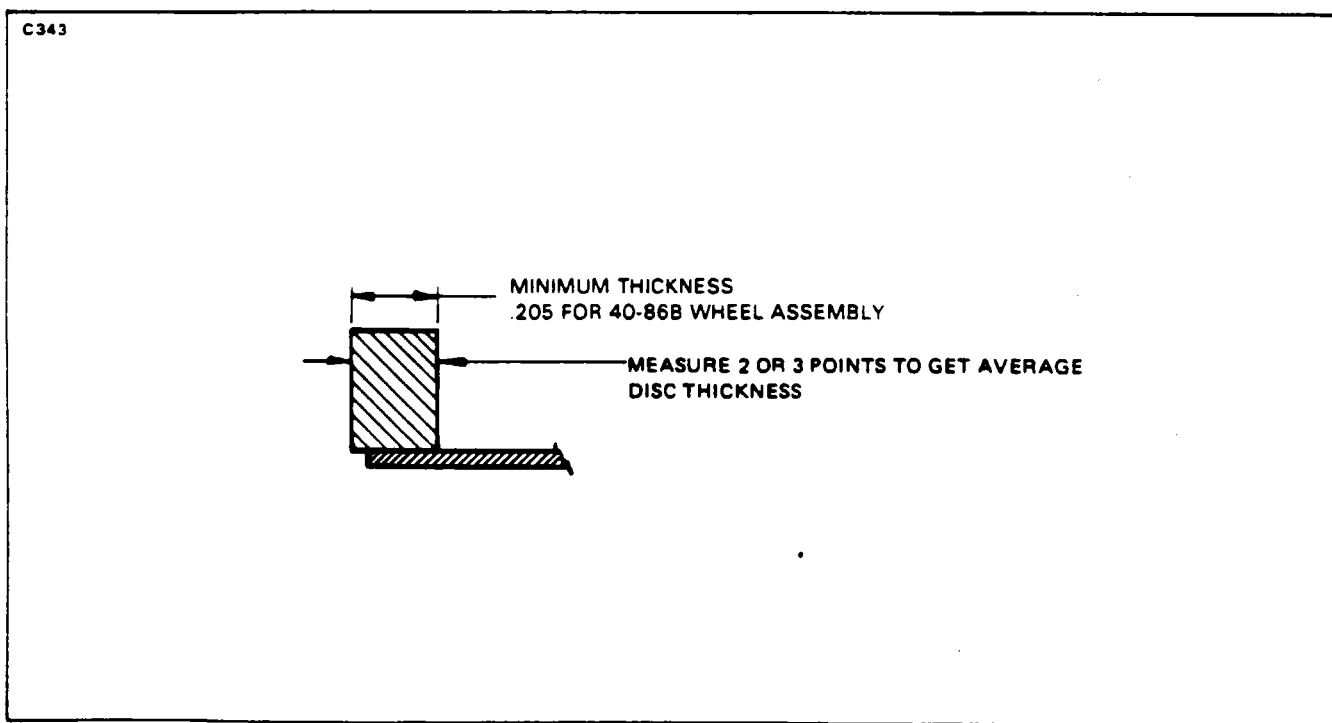

Figure 32-11. Brake Disc Minimum Thickness
4. Check the brake disc for grooves, scratches or pits. Minimum thickness of Disc 164-20 used on Wheel Assembly 40-86B is .205. (Refer to Figure 32-11.) A single groove or isolated grooves up to .031 of an inch deep would not necessitate replacement, but a grooving of the entire surface would reduce lining life and should be replaced. Should it be necessary to remove the wheel disc, refer to Removal and Disassembly of Main Wheel.